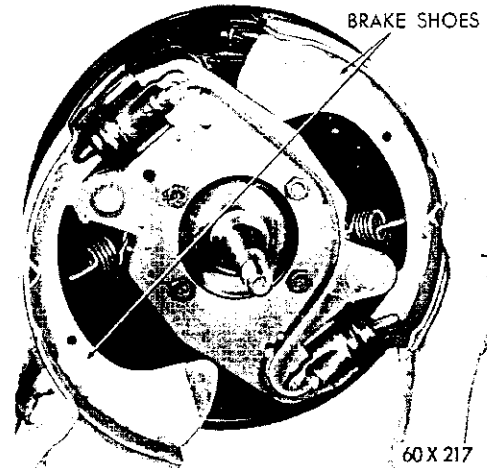

Fig. 9—Removing the Front Brake Shoe
(5) Slide the shoes from between the support plates, as shown in Figure 9.